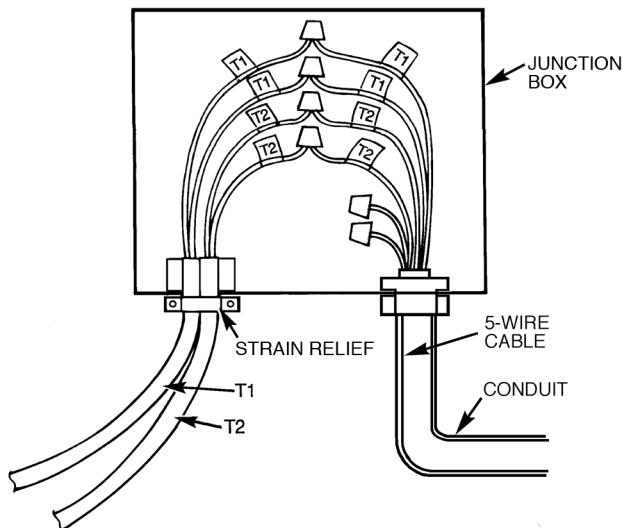

Fig. 7 — Typical Junction Box Connections
- The junction box supplied with the accessory is for splicing the thermistor leads from the cooler with the 5-wire jacketed cable from the base unit. One or two knockouts can be used. Follow local codes. Remove a knockout from the bottom of the junction box and install field-supplied strain relief at the knockout hole. If using conduit to provide mechanical protection to the thermistor wires between the junction box and the base unit, remove another knockout. See Fig. 7 for a typical installation.
11. Mount the junction box near the liquid refrigerant connection end of cooler with two M8 screws provided. Run the labeled thermistor leads from the cooler into the junction box and tighten the strain relief. Strip back the lead jackets to expose the 2 wires in each lead. See Fig. 7.
14. Run one end of the jacketed cable(s) into the junction box and splice the cable wires to the identically tagged thermistor leads. Solder the splices and insulate them to prevent shorting. Tighten the strain relief for the cable(s) and secure the junction box cover with the supplied 8B-18 x 3/8-in. screw. Splicing for leads is shown in Fig. 7.